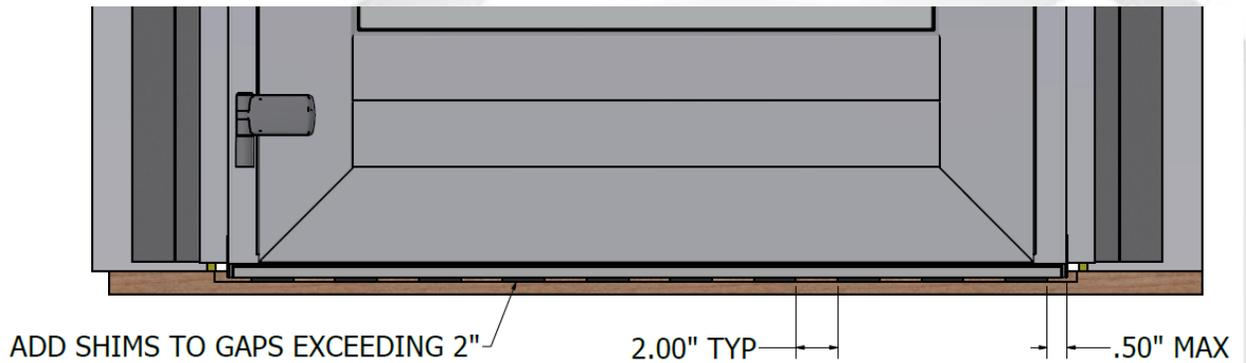

Figure 6: Sill Shimming
A) Sill shimming should only be used when the water proofing details require it or the sill is uneven or not level. Fully supported sills without shims are preferred. However, if you choose to use shims, we require the sill to be fully supported with no gaps exceeding 2" and shims must be within a 1/2" from welded corners. See figure 6.